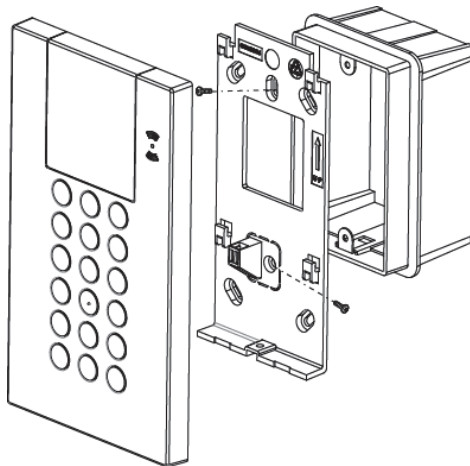

Figure 6
2. Secure the mounting bracket to the Gang Box using the two screws as illustrated in Figure 6.